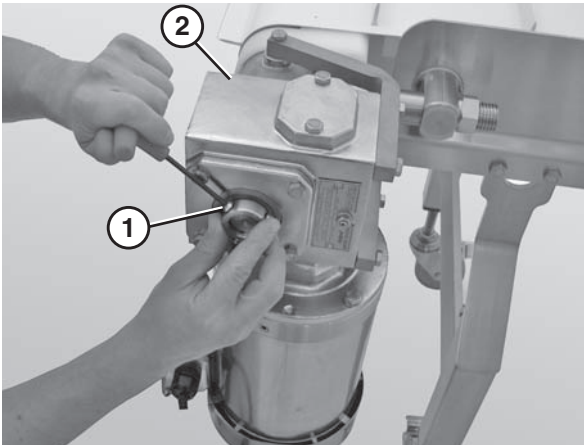

Figure 58
2. Use a 5 mm hex wrench to loosen the outside button head screws (**Figure 58, item 1**) and the inside button head screws (**Figure 58, item 2**) that connect the gearmotor to the drive spindle.